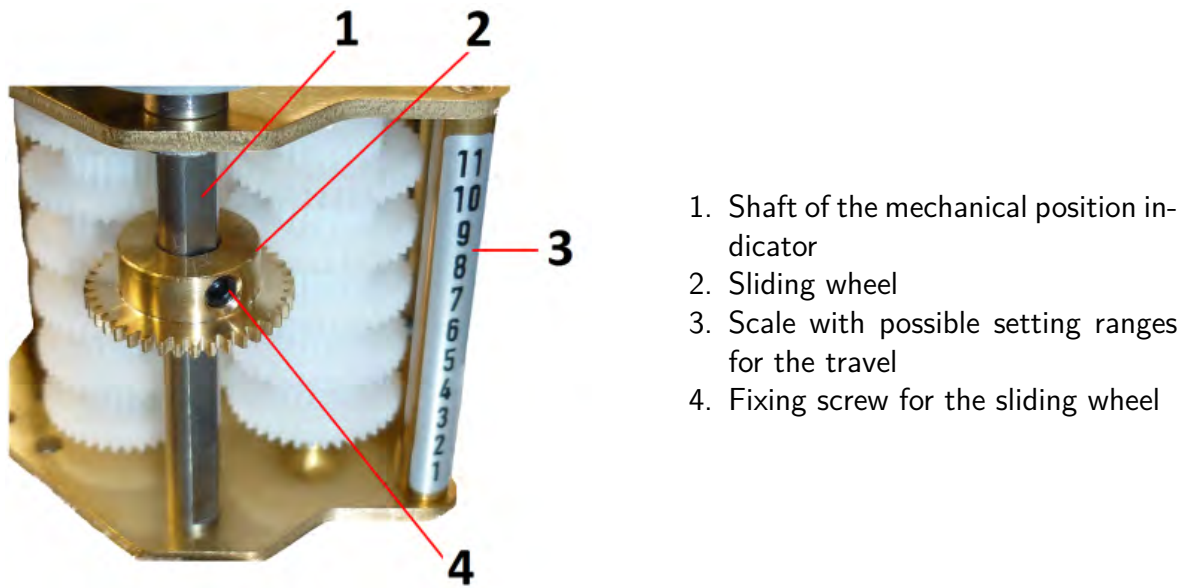

Figure 7.3: Reduction gearing
To reset the reduction gearing according to table 7.1, loosen the fixing screw item 4 in figure 7.3. After unfastening the screw, the sliding wheel can be moved up (smaller angle for the mechanical position indicator) and down (larger angle for the mechanical position indicator). As soon as the new position of the sliding wheel has been reached, fasten the fixing screw.